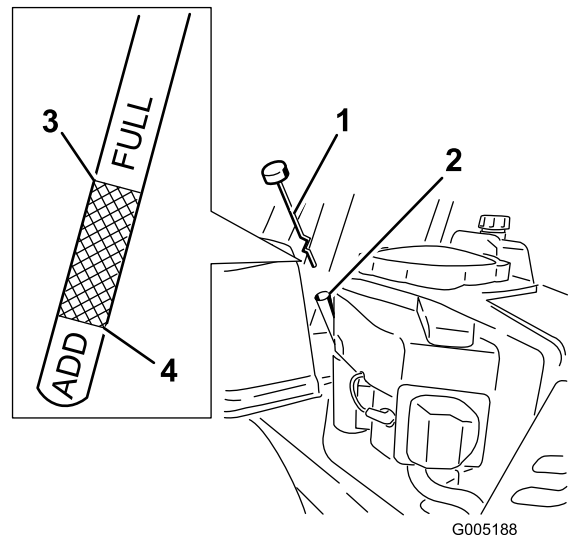

Figure 30
4. Pull and remove the oil fill cap/dipstick; wipe oil off. Reinsert the dipstick and push firmly into place (Figure 30).
5. Pull the dipstick out and check the oil level. (Figure 30).
8. Remove the oil fill cap/dipstick (Figure 30).
14. Slowly pour approximately 80% of the specified oil into the filler tube (Figure 30).
15. Install the oil fill cap/dipstick (Figure 30).
16. Check the oil level (Figure 30); refer to Checking the Oil Level.
18. Install the oil fill cap/dipstick and screw tight (Figure 30).